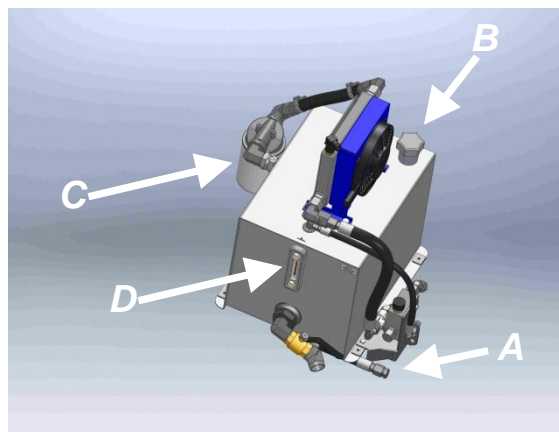

Figure 23C
- ☞ Oil reservoir [Figure 23C] (PTO pump drive option) uses clear trans-hydraulic oil. Capacity: 70 liters.
Change the oil and filter from the oil tank [Figure 23C] at the beginning of each planting season or application. The temperature changes during the offseason and can cause condensation insides of the transmission, thus reducing the efficiency of the lubrication.
To drain the oil, remove the drain plug [Figure 23C, **A**] at the bottom of the tank. To facilitate the flow, remove the filler plug [Figure 23C, **B**]
filter [Figure 23C, C]. Reinstall the drain plug and a new filter, and then fill the tank with clean trans-hydraulic oil to the recommended level, approximately 70 liters. A window indicates the oil level [Figure 23C, D]. Check the oil level every day, fill as needed.